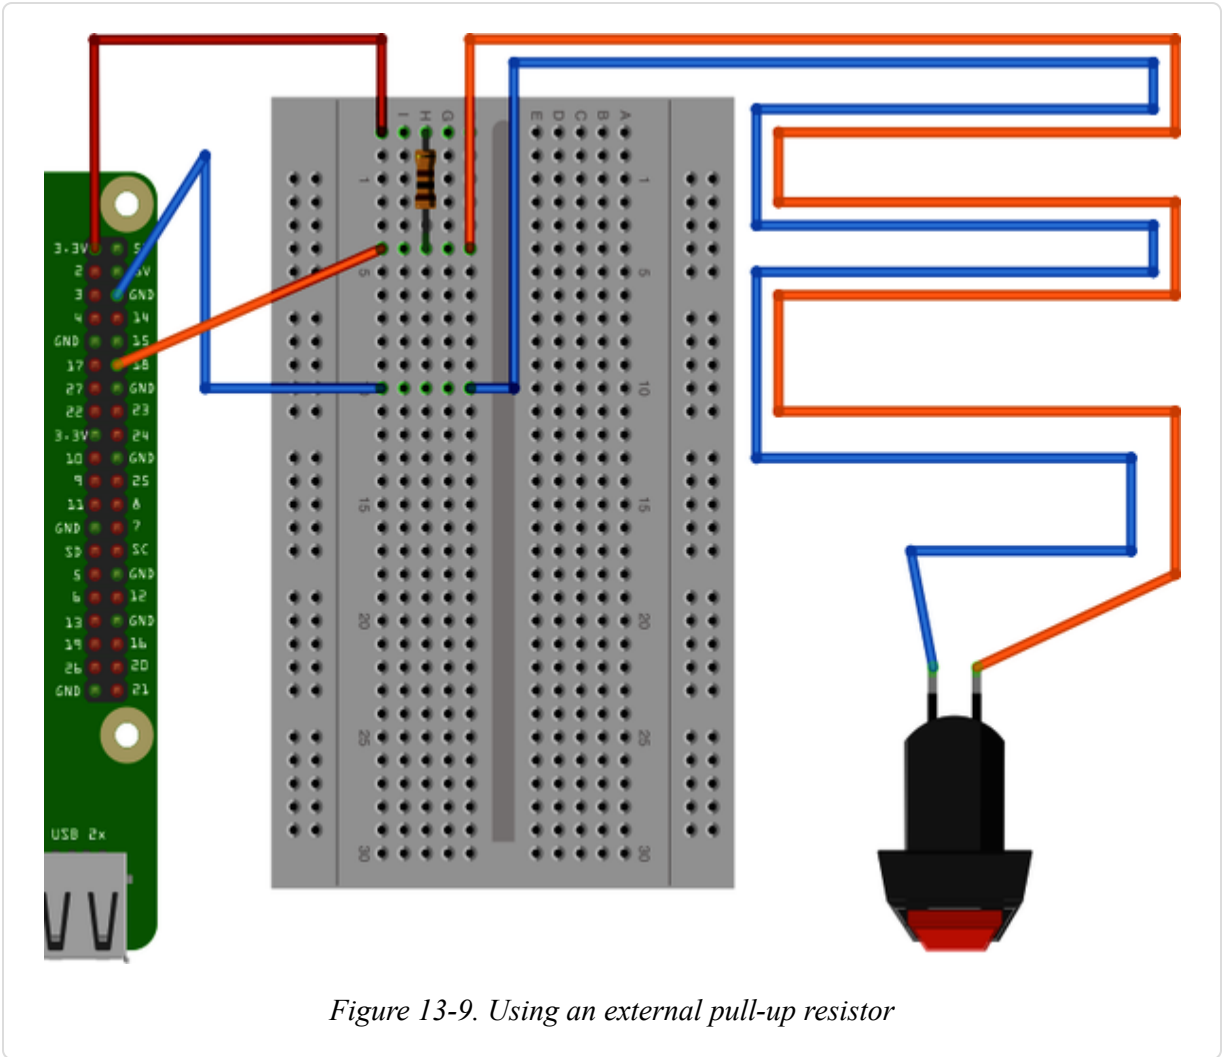

Figure 13-9. Using an external pull-up resistor
**Figure 13-9** shows the use of an external pull-up resistor.